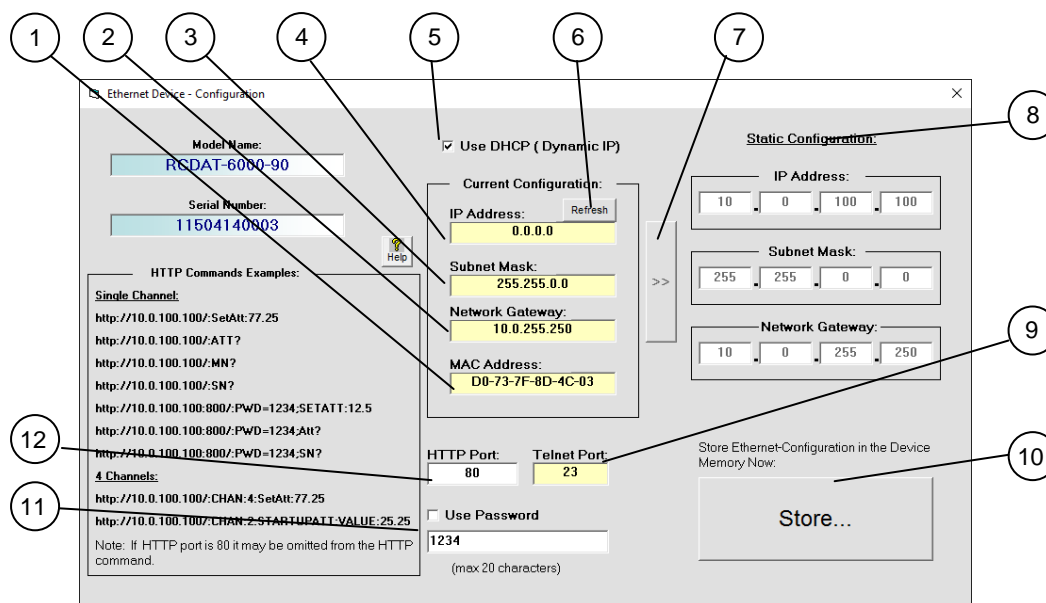

Figure 3.3.2: Ethernet Settings screen (showing factory default state)
3.3.1 Factory default settings for RCDAT and RC4DAT models are Dynamic IP (DHCP) using Port 80 (see Figure 3.3.2). Changing these settings can be done only via USB control. In the USB control GUI (see **section 3.1.3**) click on the Ethernet Settings button.
3.3.2 The Ethernet Settings screen will open showing the current configuration. **Figure 3.3.2** shows the factory default of the programmable attenuators. If these settings are appropriate for your local network then you do not need to access the setup before connecting the attenuator to the network and can connect to the attenuator via Ethernet as described in **section 3.1.5**.